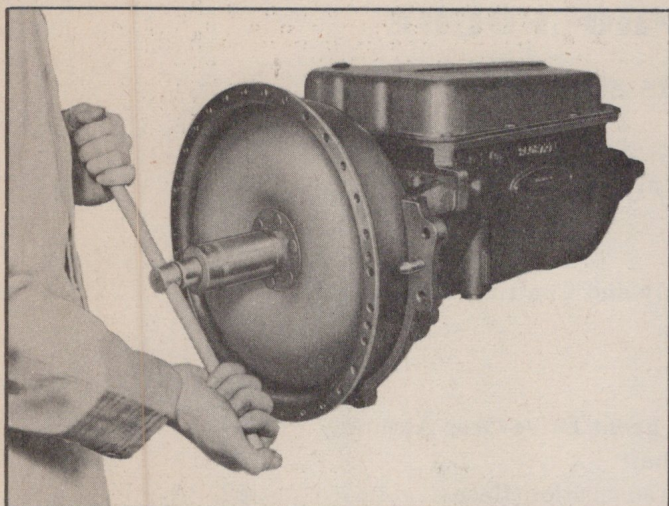

Fig. 109—Removing Main Shaft Nut
5. Remove main shaft nut, using 17/16" socket (Fig. 109).